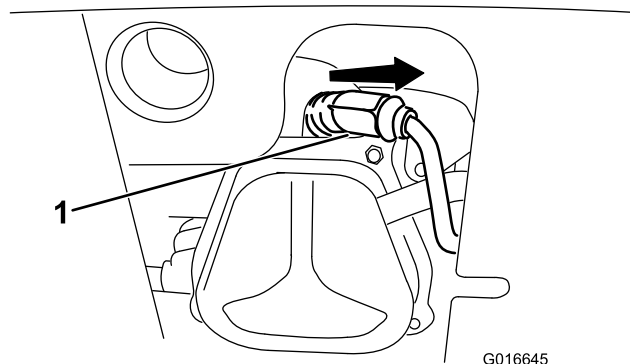

Figure 54
1. Remove the boot (Figure 54).